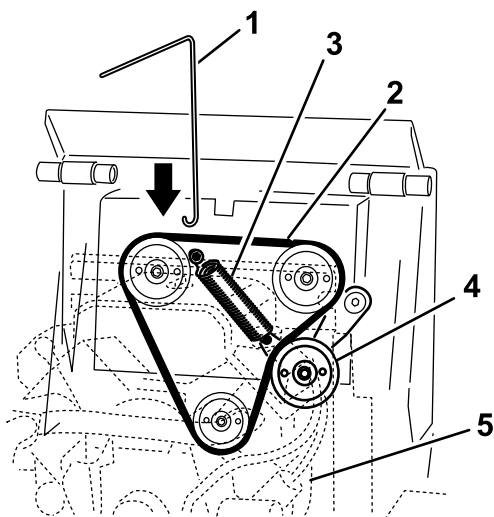

Figure 54
4. Connect the hook on the spring-removal tool to the hook on the idler pulley spring, and disconnect the spring from the stud as shown in Figure 54.